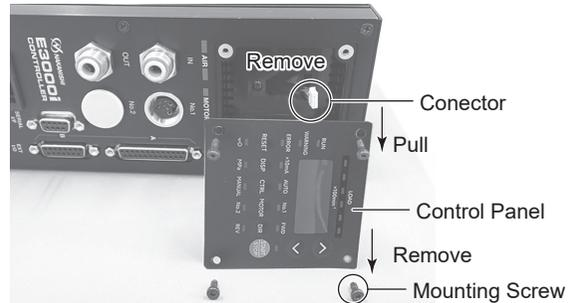

Fig. 37
- (1) Remove the 4 screws that affix the Control Panel and pull the Control Panel gently from the CONTROLLER (Fig. 37).
Remove the connector from rear of the Control Panel (Fig. 37).